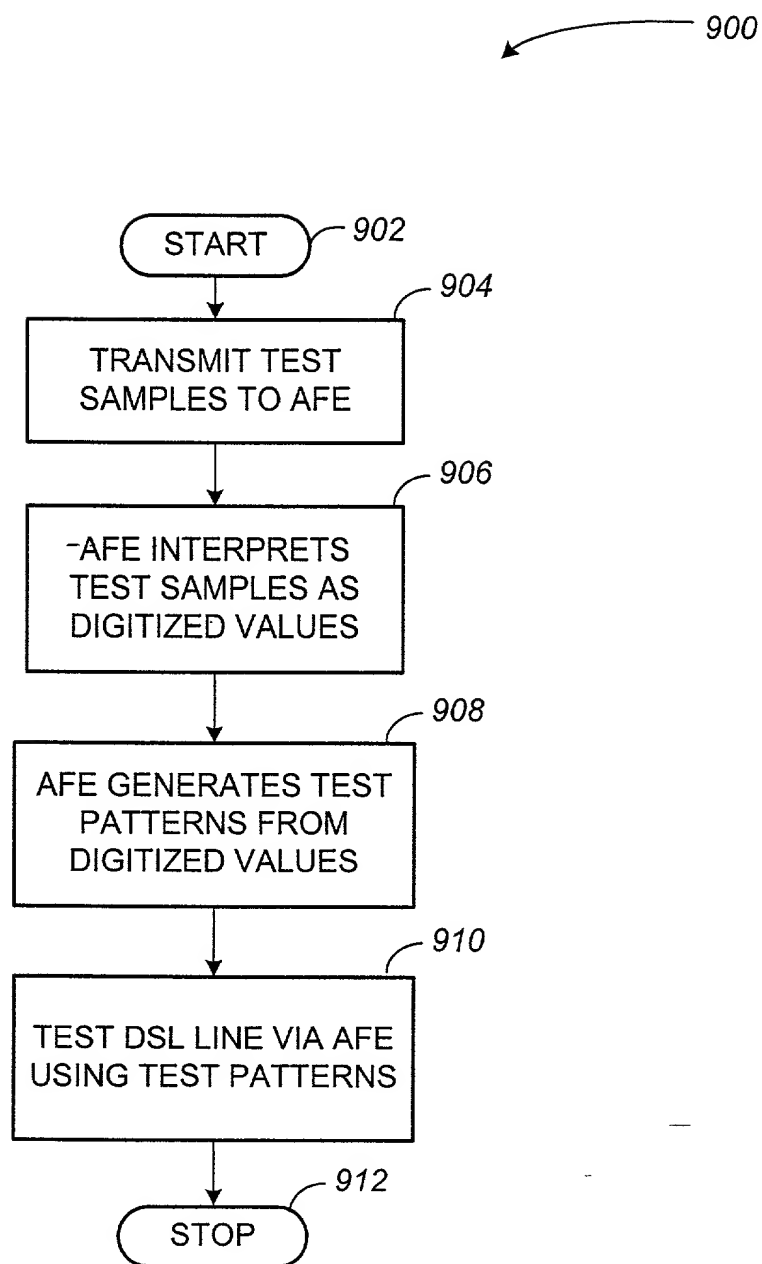

FIG. 9
FIG. 9 is a flowchart illustrating a process for testing a DSL line via an AFE. The process begins at a START block (902), followed by transmitting test samples to the AFE (904). The AFE then interprets these samples as digitized values (906). Subsequently, the AFE generates test patterns from the digitized values (908). Finally, the DSL line is tested via the AFE using these test patterns (910), and the process ends at a STOP block (912).